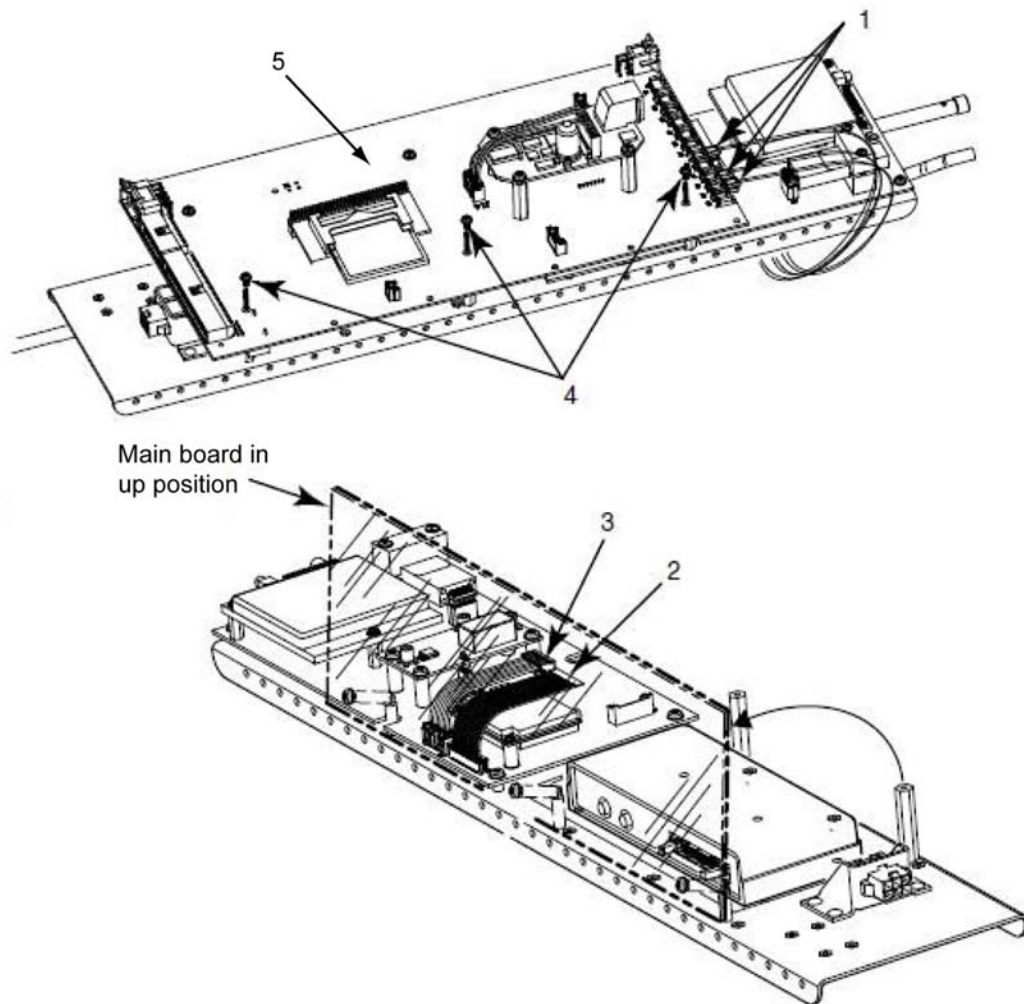

Figure 2-28 *Glider main board.*
1. Remove the screws (Figure 2-28, Item 4).
2. Disconnect the three wires from the main board (Figure 2-28, Item 1).
3. Remove the glider main board (Figure 2-28, Item 5).
1. Position the glider main board (Figure 2-28, Item 5) and install the screws (Figure 2-28, Item 4).
2. Connect the three wires to the main board (Figure 2-28, Item 1).